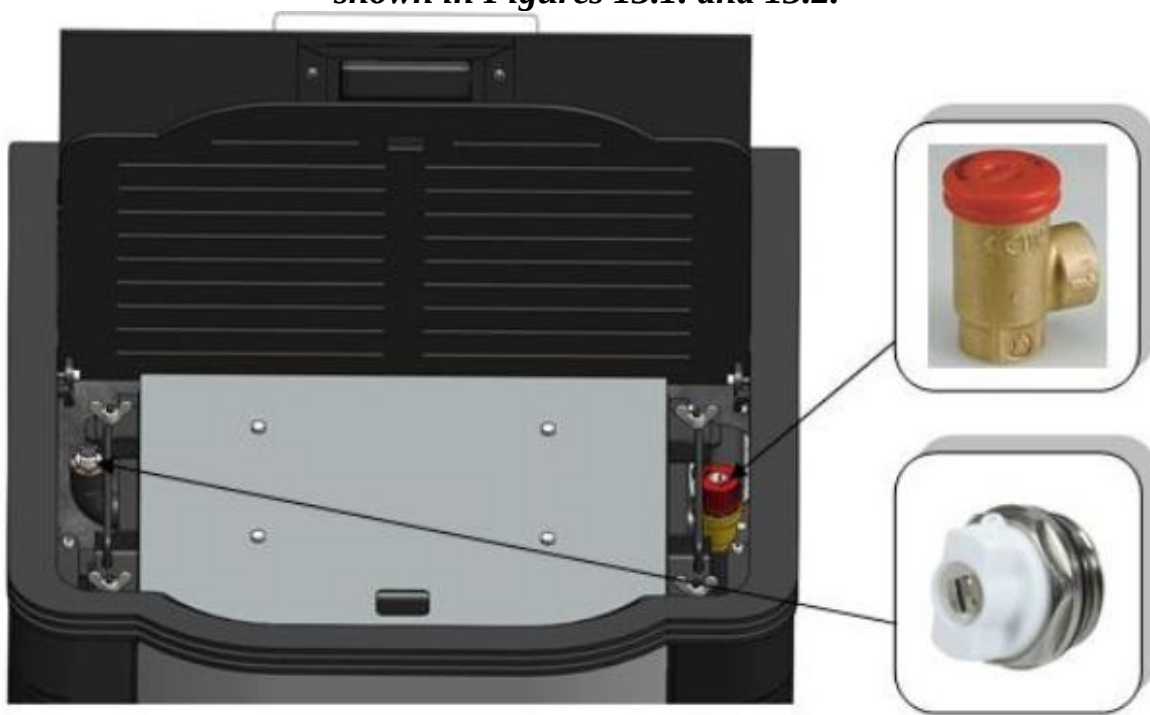

Figure 13.1. Display of vent and safety valve on top of the pellet Boiler Heating Stove
**Note:** When filling the Hydraulic system pay attention to security elements shown in Figures 13.1. and 13.2.